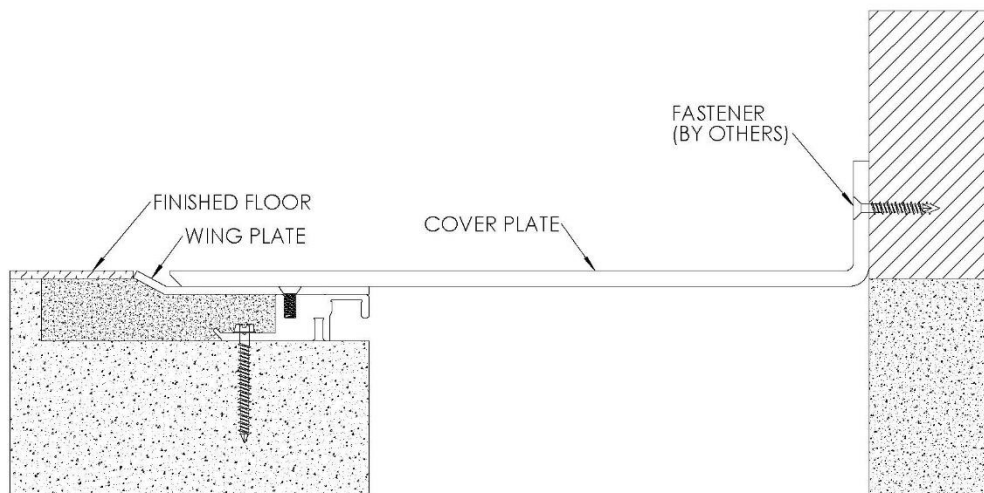

FIGURE 6
6. Position cover plate against wall as shown, making sure the top of its horizontal face is level when set on the wing plate. Attach plate to wall using appropriate 3/16" fasteners for the wall type, 18" o.c. *Note: Wall fasteners are not provided.* **See Figure 6**